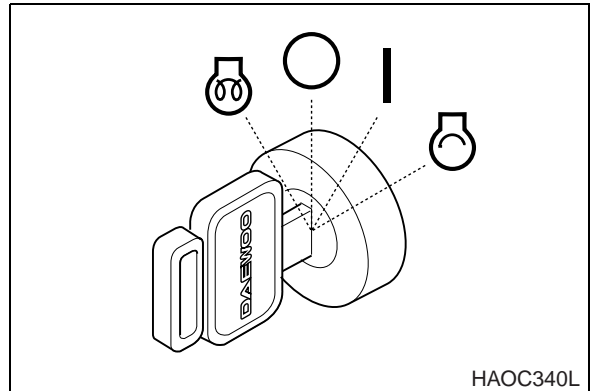

Figure 25
4. Stop engine turning by turning key to "O" - "OFF" position (Figure 25).